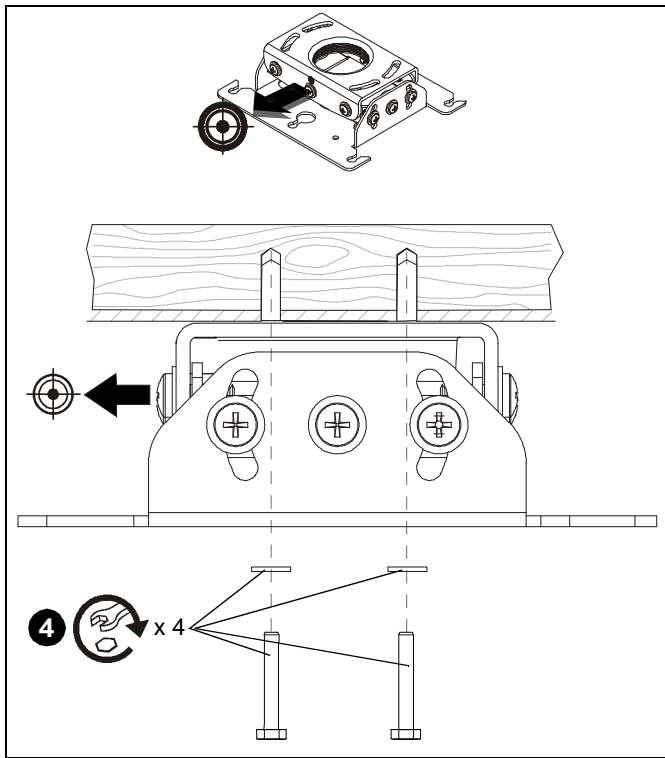

Figure 3
- Secure RPA to structure using four 1/4" x 2" minimum length lag bolts (not included) and four 1/4" flat washers (not included). (See Figure 3)